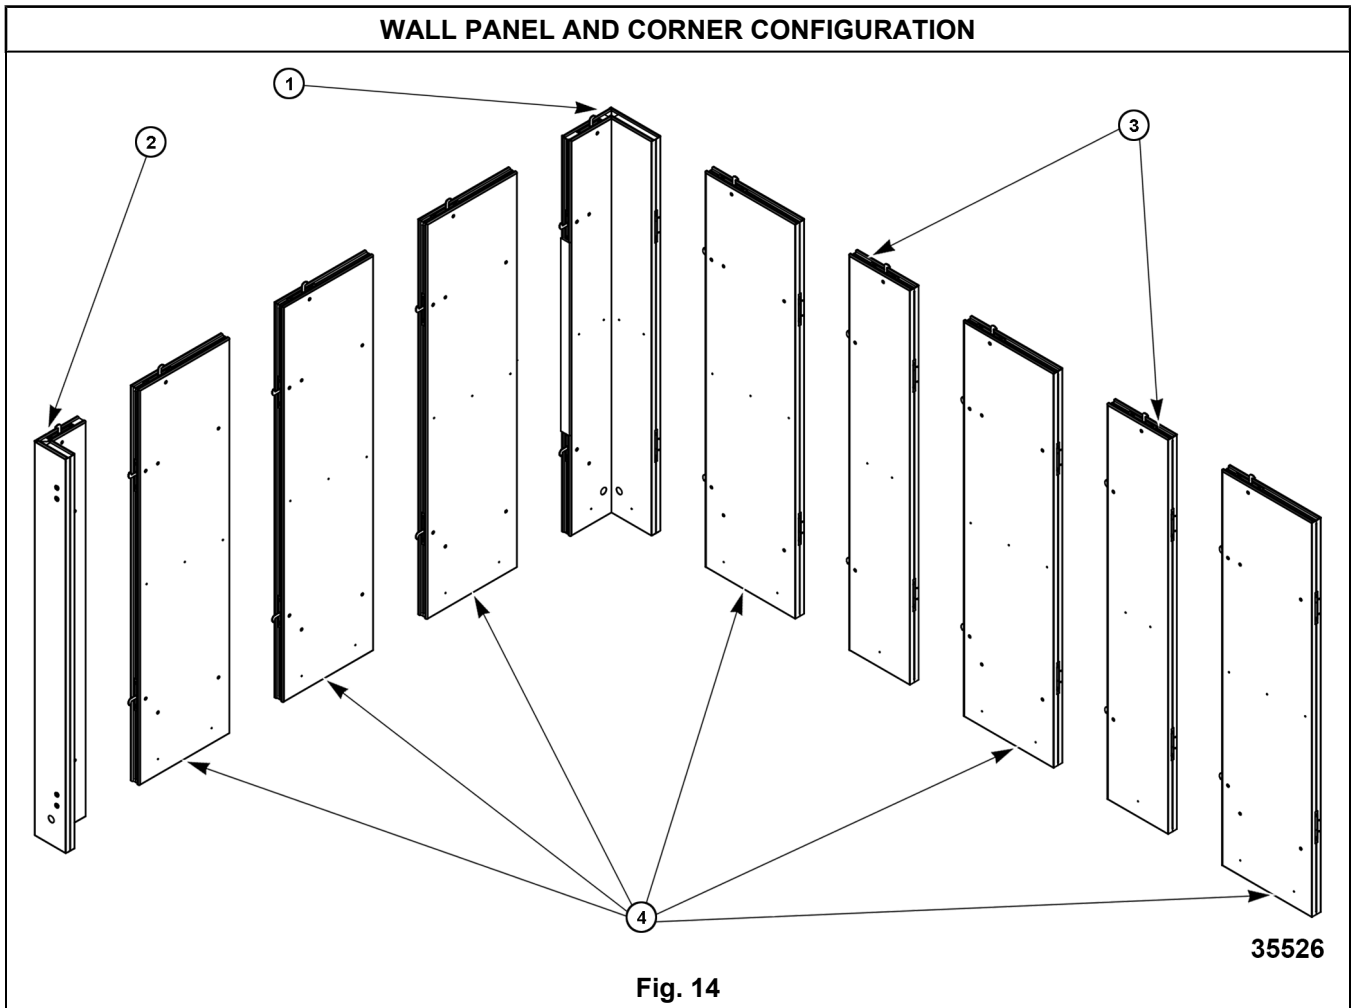

Fig. 14
1. Start with left rear corner (1, Fig. 14) at final position on facilities floor.